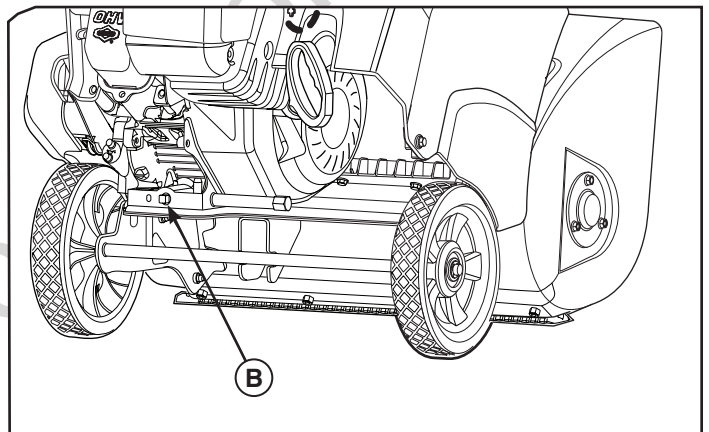

Figure 7
2. Remove the oil drain plug (B, Figure 7) and tilt the snowthrower slightly to drain the oil into an appropriate container.